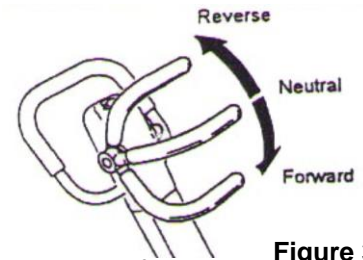

Figure 3
2. Operate travel lever to have compactor travel forward or reverse. Pull lever back for reverse, release lever and lever will spring forward causing forward movement and place lever in neutral for vibration in place. (Fig.3)